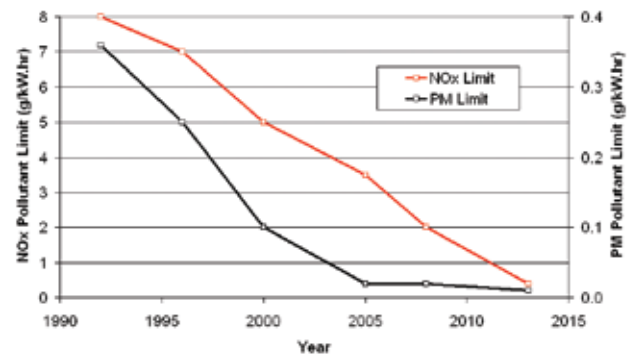

Fig 1 - Emissions reductions for European heavy-duty diesel engines
The transition from Euro IV to Euro V entailed only a reduction in Nitrogen Oxides (NOx) but the move to Euro VI will be much more difficult because it calls for deep cuts in both NOx and Particulate Matter (PM). Euro VI will reduce pollutants by more than 95% when compared with the first European emissions limits, Euro I, in 1992. Figure 1 shows the huge impact of emissions legislation on the levels of pollutants emitted by diesel engines. Also bear in mind that before any emissions legislation came into force, actual emissions exceeded the limits shown in the chart.